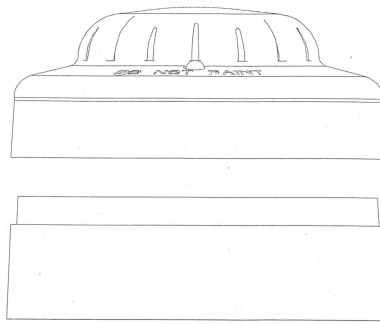

Fig. 2 Alignment of detector head and its base
1. Align the components as shown in Figure 2.